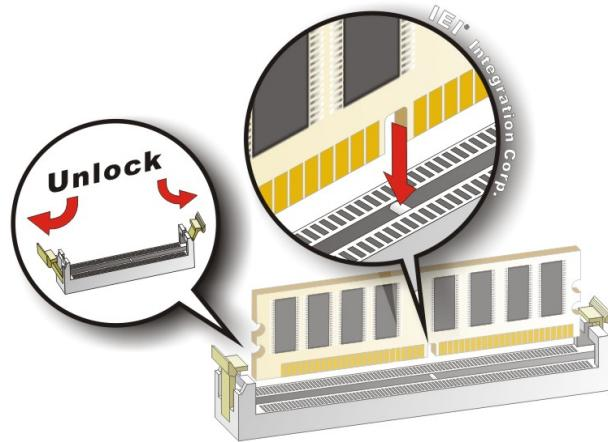

Figure 3-11: DIMM Installation
To install a DIMM, please follow the steps below and refer to **Figure 3-11**.
- Step 2:** Open the **DIMM socket handles**. Open the two handles outwards as far as they can. See **Figure 3-11**.
- Step 3:** Align the **DIMM with the socket**. Align the DIMM so the notch on the memory lines up with the notch on the memory socket. See **Figure 3-11**.
- Step 4:** Insert the **DIMM**. Once aligned, press down until the DIMM is properly seated. Clip the two handles into place. See **Figure 3-11**.